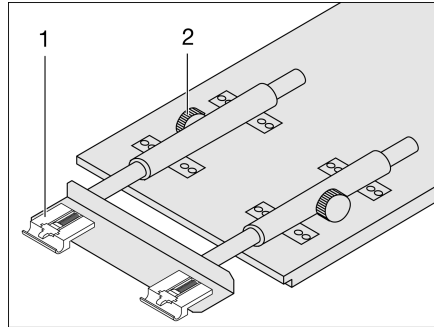

Fig. 97 Extend suspension table
- Undo the knurled screws (Fig. 97,2).
- Lift the table-top slightly and pull it out as far as possible. The table extension (Fig. 97,1) is fully extended.
- Lift the table-top slightly and push it back as far as possible. The table extension (Fig. 97,1) is fully retracted.